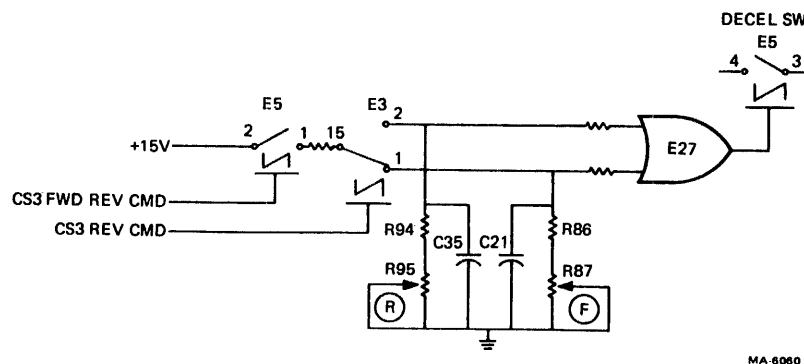

Figure 6-21 DECEL Switch
7. Refer to Figure 6-21. When E5 pins 1 and 2 open, the charge on C21 maintains the output of E27 high. The DECEL SW stays closed until C21 discharges through R86 and R87. This RC time is calculated (and adjustable) to allow the reverse drive current to reduce forward speed by about 80 percent before opening the DECEL SW. Two RC circuits compensate for unequal forward and reverse circuit parameters.